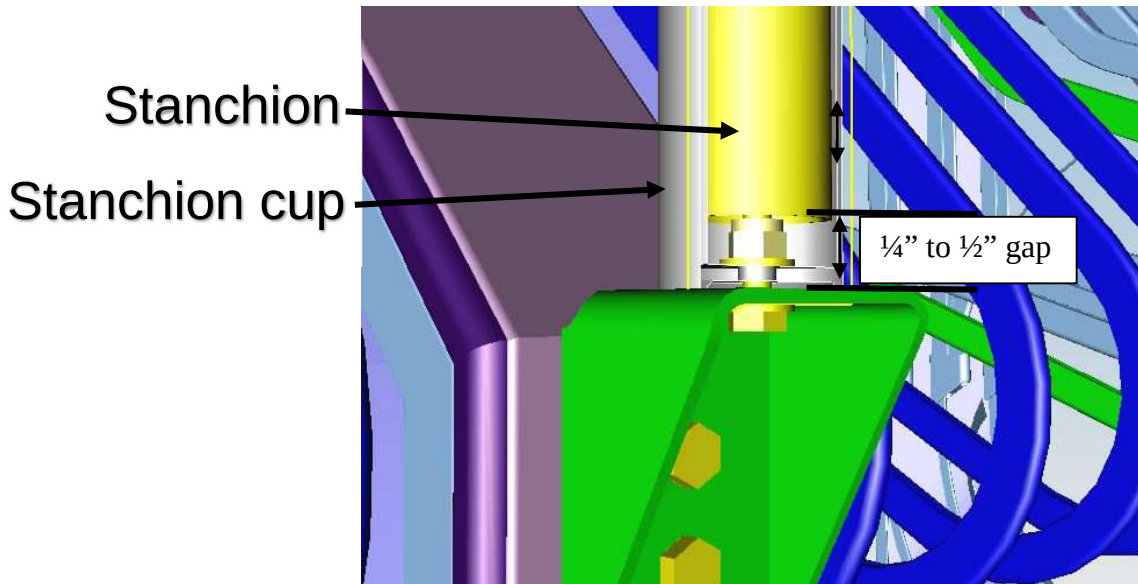

Figure 7: Cutaway of stanchion and stanchion retaining cup
7. Trim the bottom of the stanchion (if so equipped) so when installed there's a $\frac{1}{4}$ " to $\frac{1}{2}$ " gap from the bottom of the retaining cup as shown in figure 7. Remove sharp burrs.